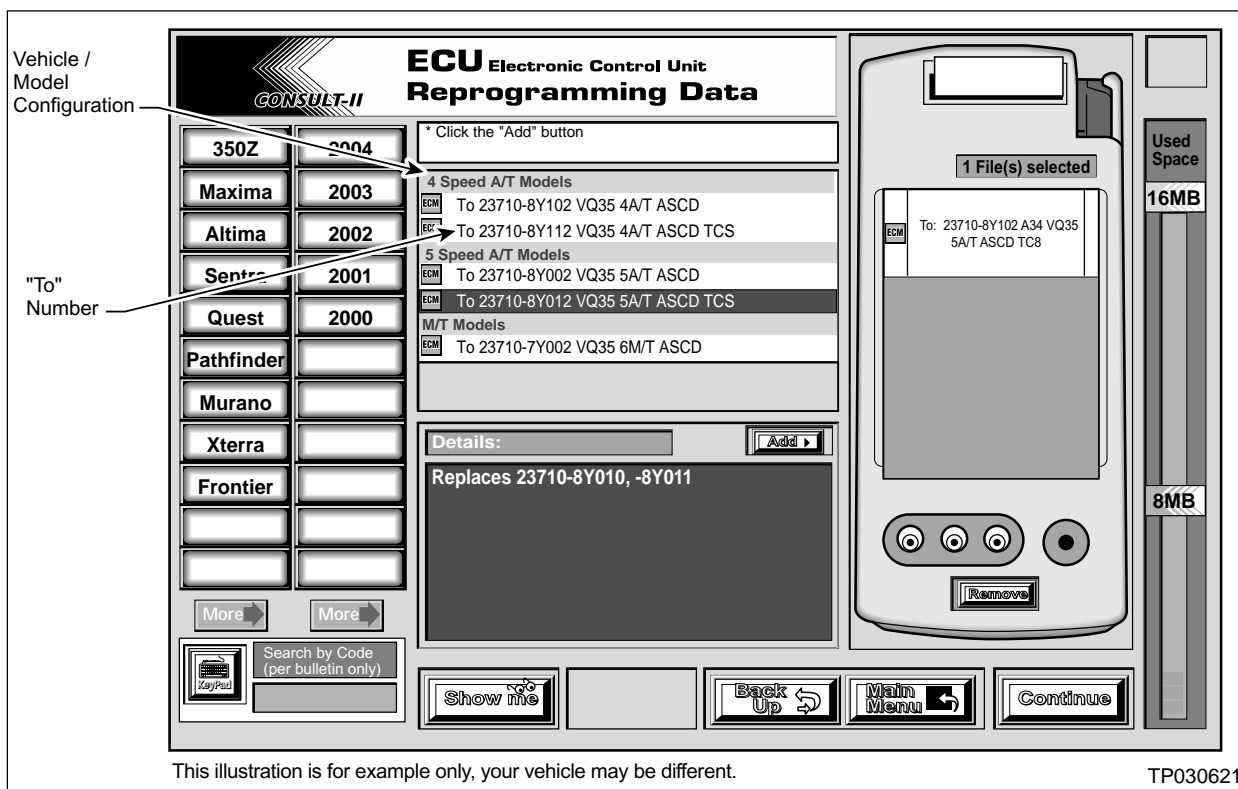

Figure 1
2. In ASIST, select **CONSULT Utilities** >> **ECM/TCM Data**. Then choose Model and Model Year (see Figure 1).
3. Look for ECM Data Updates (listed by ECM P/Ns and vehicle configuration) in the top, center display panel of the ASIST screen (see Figure 1).
4. Select the “configuration” on the screen for the vehicle you’re working on. Then confirm that your ECM is listed in the “Replaces 23710-XXXXX, -XXXXX, etc” section in the lower, center “Details” panel of the ASIST screen (see Figure 1).